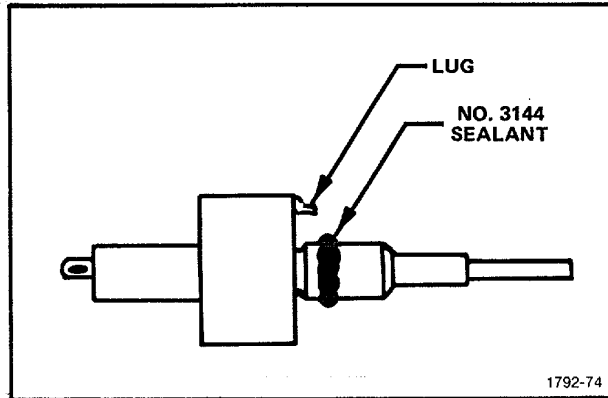

Figure 5-21. Application of sealant to ZERO REFERENCE control bushing.
**20. Install the ZERO REFERENCE control in the Front Panel (see Figs. 5-21 and 5-22)**
1. Form a bead of No. 3144 sealant around the threads of the bushing as shown in Fig. 5-21.